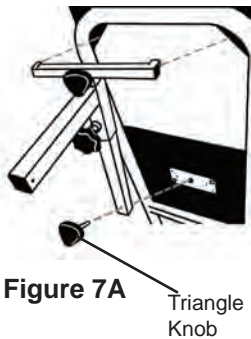

Figure 7A
- Remove the Triangle Knob (M1-1042) at the base of the Arm Rest Adjustment Frame (M1-1041) shaft. (See Figure 7A) *Keep this hardware nearby!*